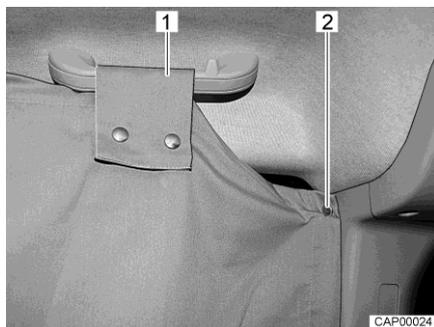

Fig. 22 Cabin black-out shade on side pane
- Fasten cabin black-out shade on one side of the driver's cabin. In order to do this, fasten two snap fasteners (Fig. 22,2) behind the side pane, on the B column.
- Guide loop (Fig. 22,1) over the handle above the side pane and fasten with snap fasteners.